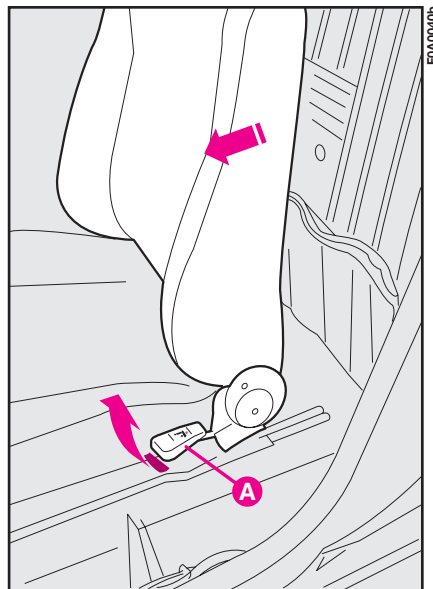
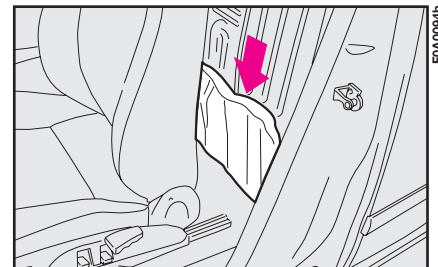
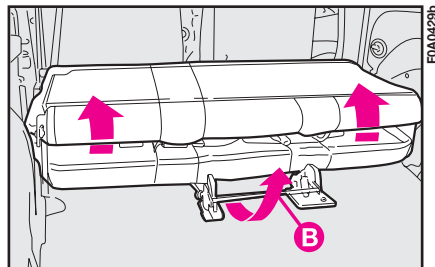
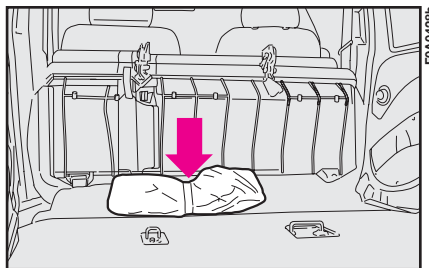

fig. 2
fig. 3
fig. 4
fig. 5
**4)** Either move the left-hand front seat back forwards (Fiat Doblò Cargo versions) lifting lever **A**-fig. 2 and take the tool bag shown in fig. 3 or lift the rear seat (for Fiat Doblò Passenger Transport versions) with lever **B**-fig. 4 and take the bag shown in fig. 5. Take the bag to the wheel to be replaced.